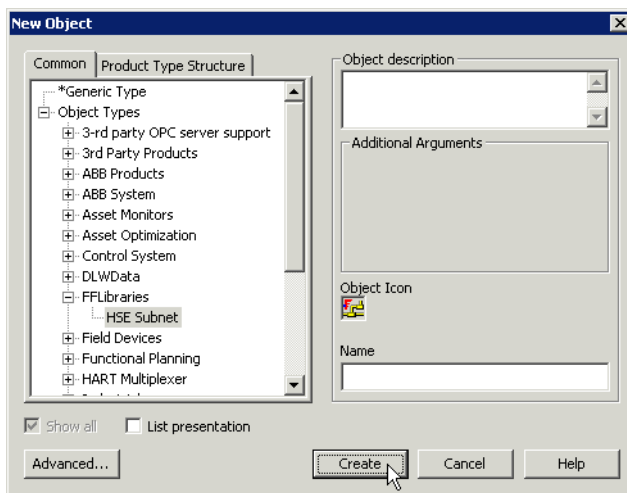

Figure 160. Selection of the HSE Subnet
3. Select the **HSE Subnet** object and enter a name for the object (refer to Figure 160).